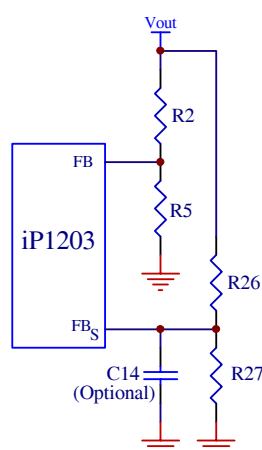

Fig. 14: Typical Scheme for Output Voltage Setting
$$V_{OUT} = V_{REF} \times (1 + R_2/R_5) \quad (\text{see Fig. 14}) \quad (1)$$
The output of the iP1203 will shut down if it experiences a voltage in the range of 115% of V_{OUT} . The overvoltage sense pin FB_s is connected to the output through voltage dividers, R26 and R27 (Fig. 14), and the trip setpoint is programmed according to equation (1). A separate overvoltage sense pin FB_s is provided to protect the power supply output if for some reason the main feedback loop is lost (for instance, loss of feedback resistors). An optional 100pF capacitor (C14) is used for delay and filtering.
When selecting output capacitors, it is important to consider the overshoot performance of the power supply. If the amount of capacitance is not adequate, then, when unloading the output, the magnitude of the overshoot due to stored inductor energy, and depending on the speed of the response of the control loop, can exceed the overvoltage trip threshold of the iP1203PbF and can cause undesirable shutdown of the output. The magnitude of the overshoot should be kept below 1.125V_{OUT}. To prevent the overshoot from tripping the output a delay can be added by installing capacitor C14 as shown in Fig.14.